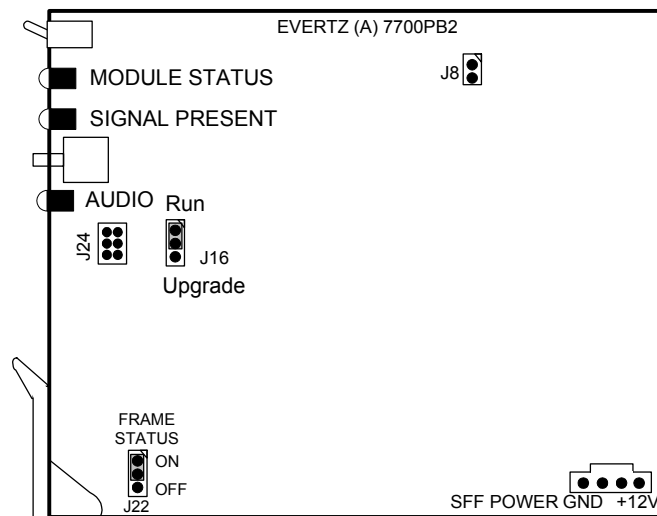

Figure 2 : Location of UPGRADE Jumper on Rev A and later 7700PB and 7700PB2 Boards
2. Connect the 7700PB Serial Upgrade cable to the 2 row x 3 pin header as shown in Figure 2. Install the cable with the ribbon cable towards the front of the board. For other models see the jumper location drawing in the manual chapter for the module.
3. Move jumper J16 to the UPGRADE position as shown in Figure 2. For other models see the jumper location drawing in the manual chapter for the module.